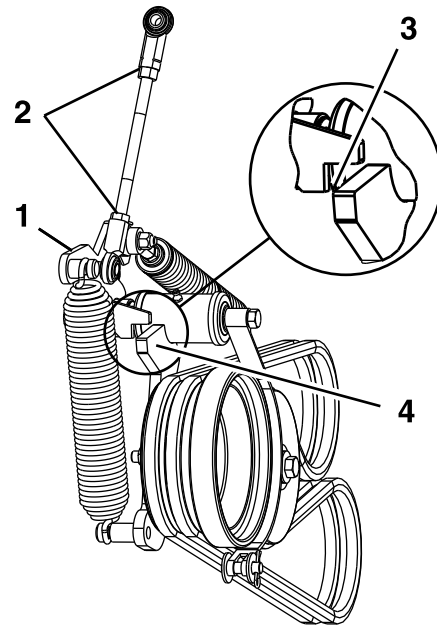

Figure 49
13. Loosen the jam nuts and adjust the linkage until the top of the idler arm is aligned with the bottom of the notch on the tension arm as shown in Figure 49.